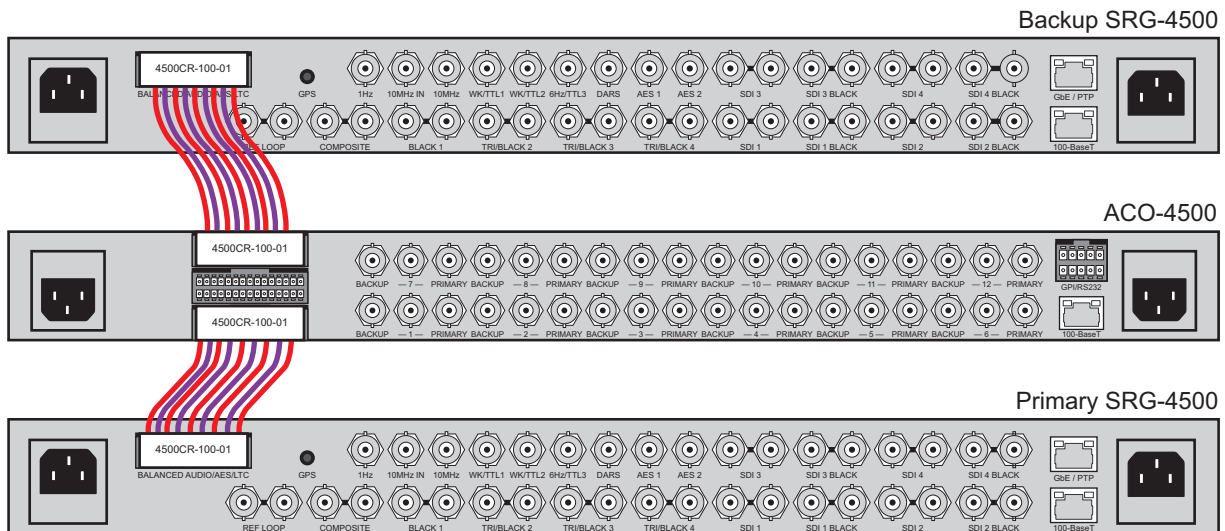

Figure 5.2 Connecting the Backup SRG-4500 to the ACO-4500 Rear Panel
2. Connect the other end of the same Interface Cable to the top 30-pin Connector on the ACO-4500 rear panel. Refer to **Figure 5.2**.